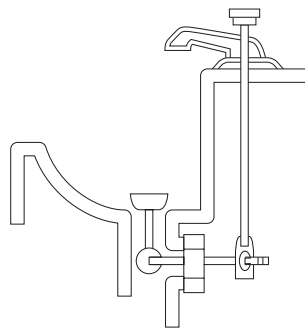

Figure 4
- Pop-up Drain: Remove lift rod and drain plug (*Figure 4*).